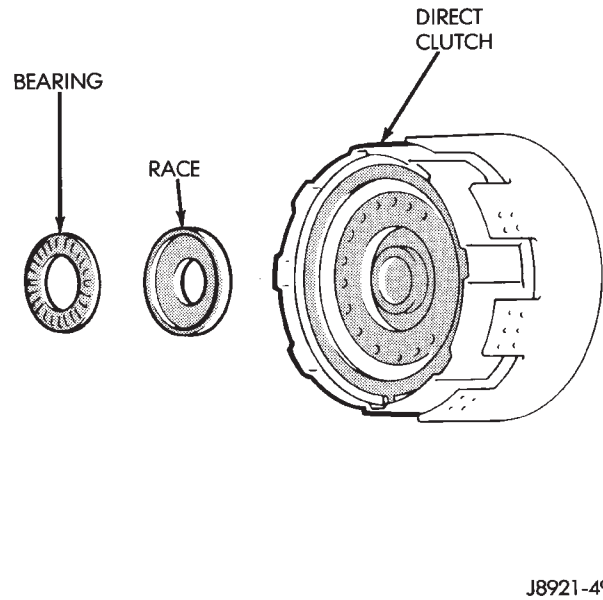

Fig. 106 Bearing And Race Removal From Clutch Hub
(38) Remove thrust bearing and race from clutch hub (Fig. 106).